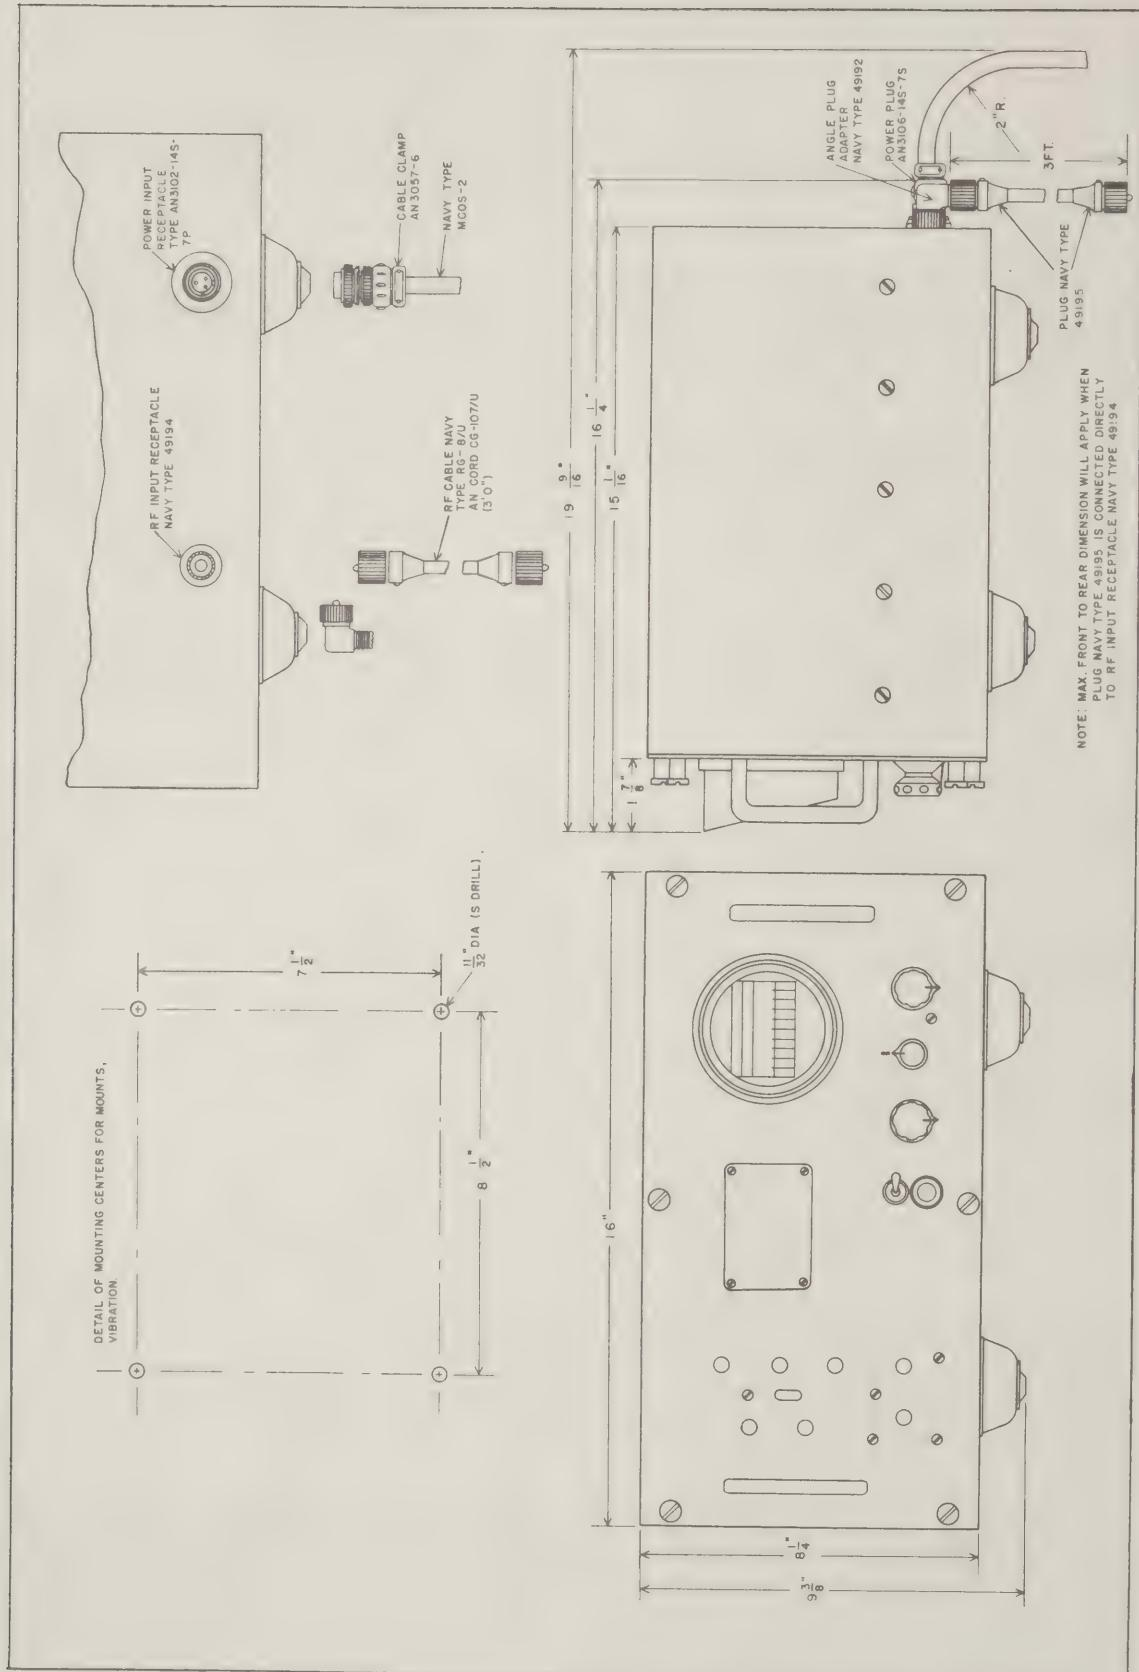

Figure 3-1. Panoramic Indicator IP-206/URR,
a. The Panoramic Indicator may be mounted over the companion receiver or it may be set in a rack. However, if possible, do not mount the indicator over ventilation holes of the companion receiver. See Fig. 3-1 for installation data.